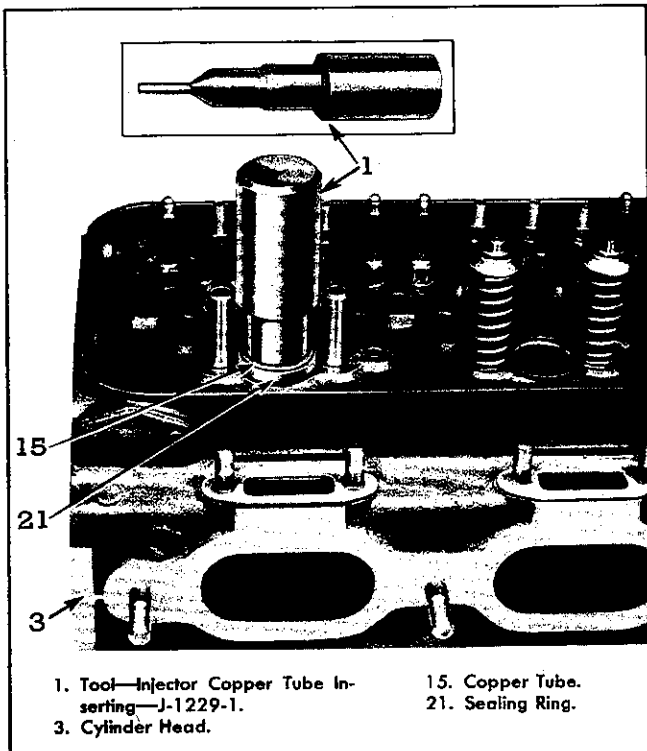

Fig. 28—Installing Injector Copper Tube in Cylinder Head with Tool J-1229-1 (Operation 1).
2. Crowd injector tube through seal ring and into bore of head. Insert driving tool in tube and drive tube into position as illustrated in Fig. 28. When tube is properly located the flange at upper end will seat on the seal ring and into counterbore of cylinder head.